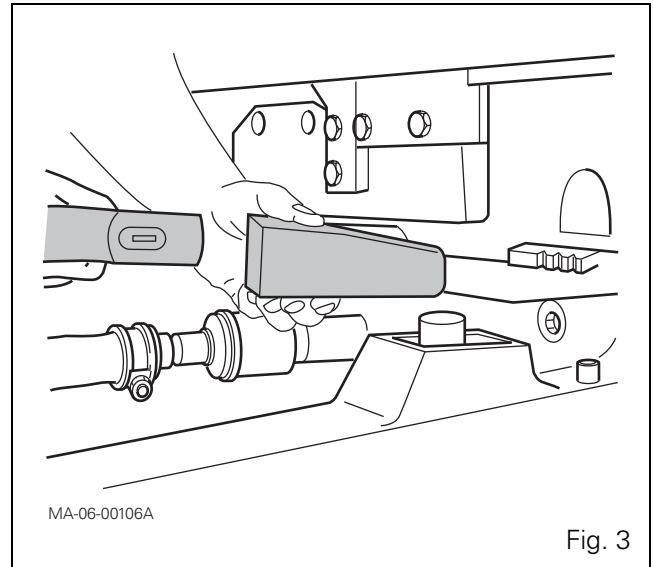

Fig. 3
- between the frame and the front axle (Fig. 3).